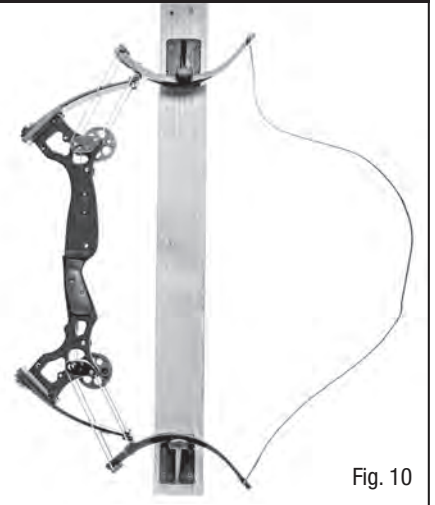

Fig. 10
- A. Draw the bow and place it between the two limb compression blocks on an Oneida Compression Jig. (Fig. 10) Item # 20017